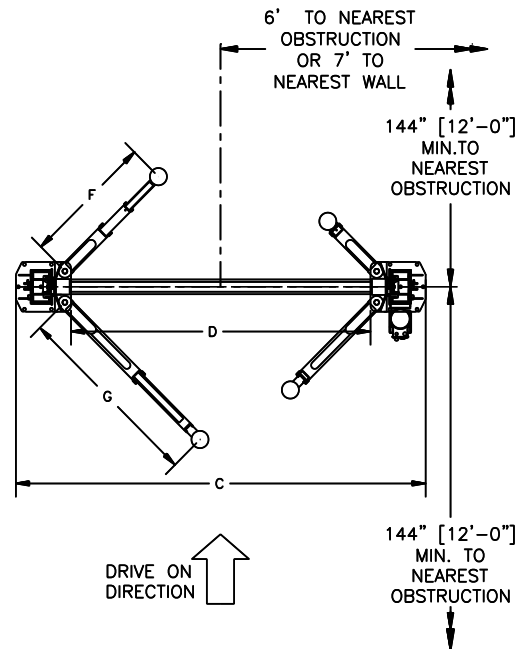

Fig1b - Service Bay Layout
- Layout the service bay according to the architect's plans or owners instructions (**see Fig 1b**). **Failure to install in this orientation can result in personal and property damage.** Be certain that the proper conditions exist, see page 3.
- Using the Overall Width (C) Dimension from **Fig 1b**, chalk two parallel lines on the floor within 1/8" tolerance. Erect both column assemblies. Align the base plate edges to the chalk lines.